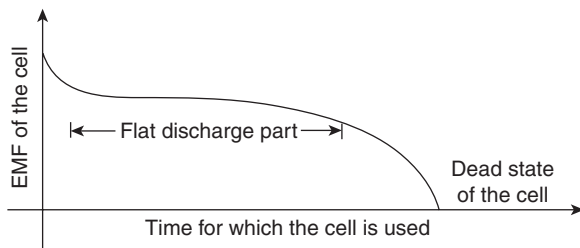

Figure 9 Flat discharge rate.
- A good cell or battery is one which has a flat discharge rate (constant EMF) (Figure 9).